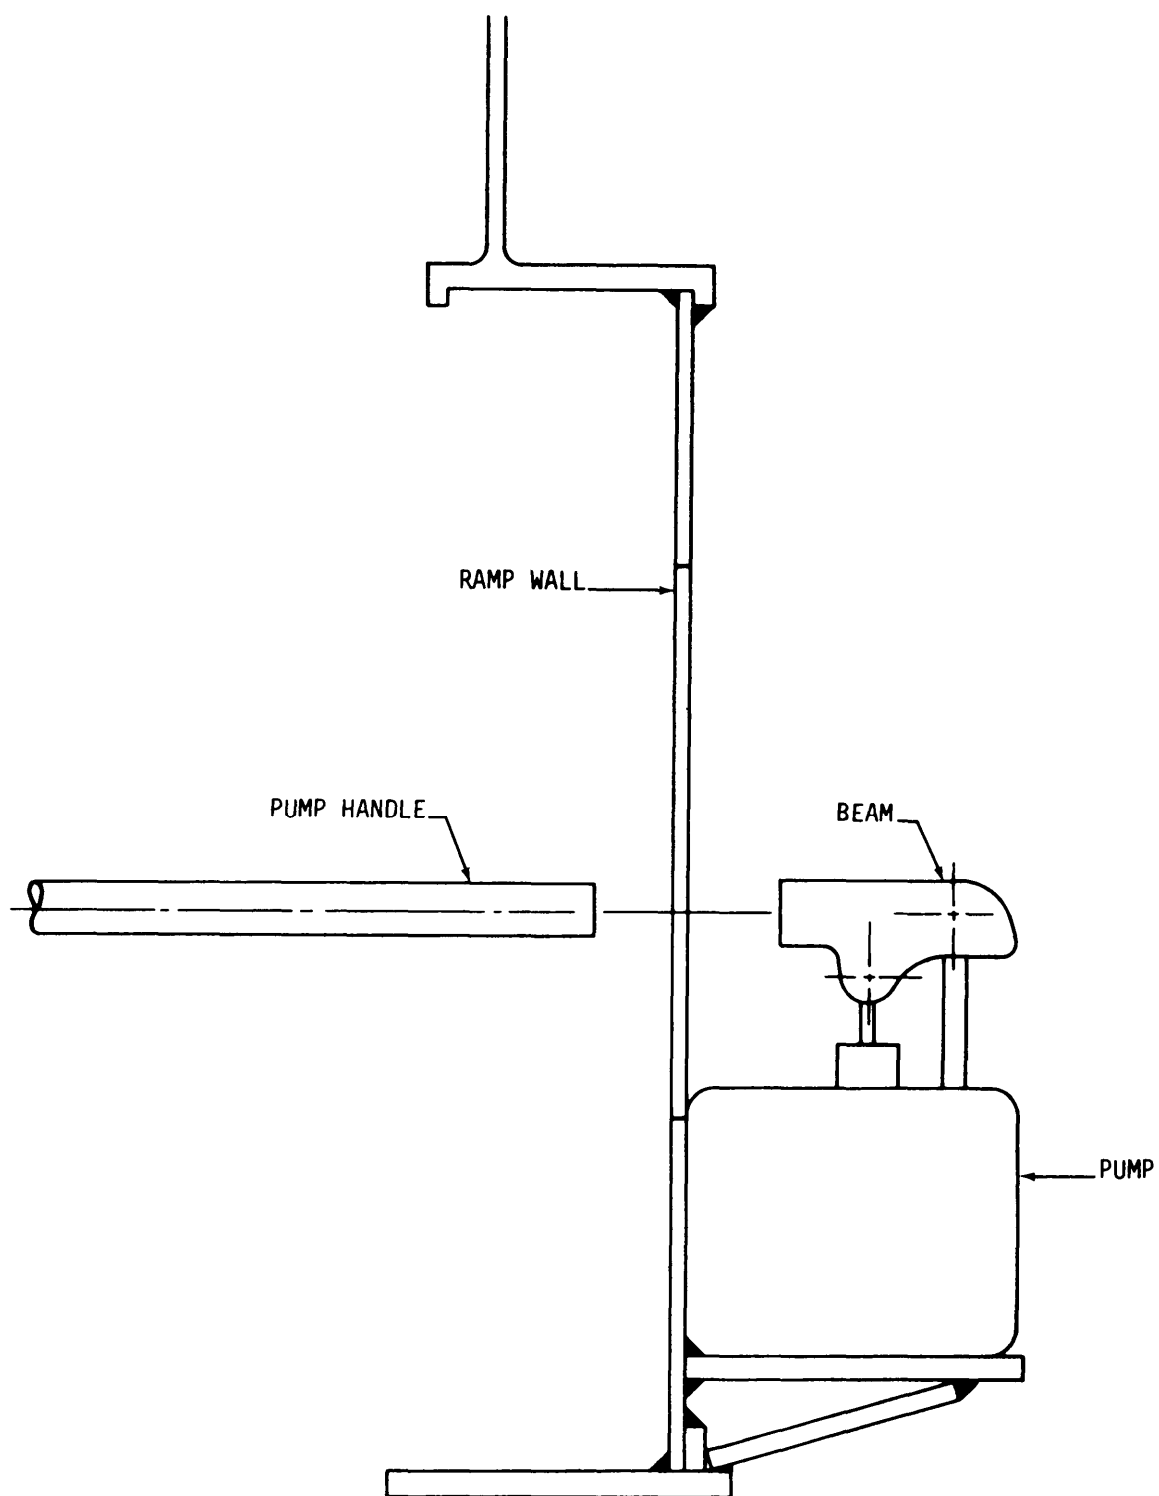

Figure 4-5. Pump Handle Into Beam - Location
c. Insert the pump handle thru the pump access port and into the pump beam (Fig. 4-5).
- b. Take the pump handle from the storage tube and position it in the pump beam (Fig. 4-5).